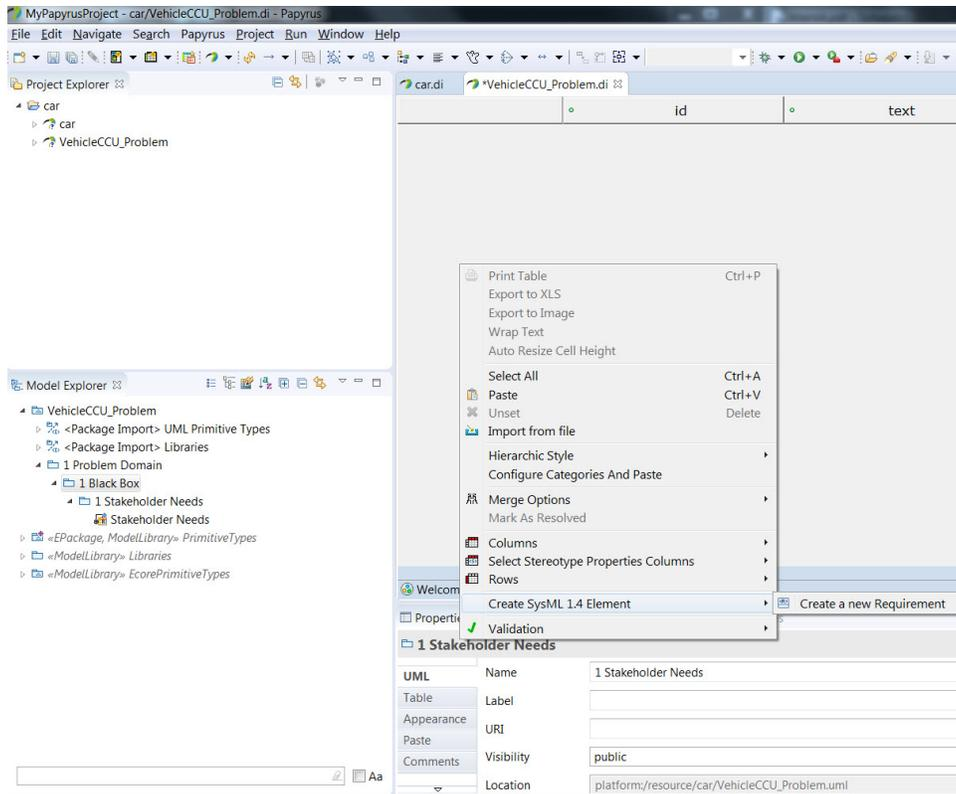
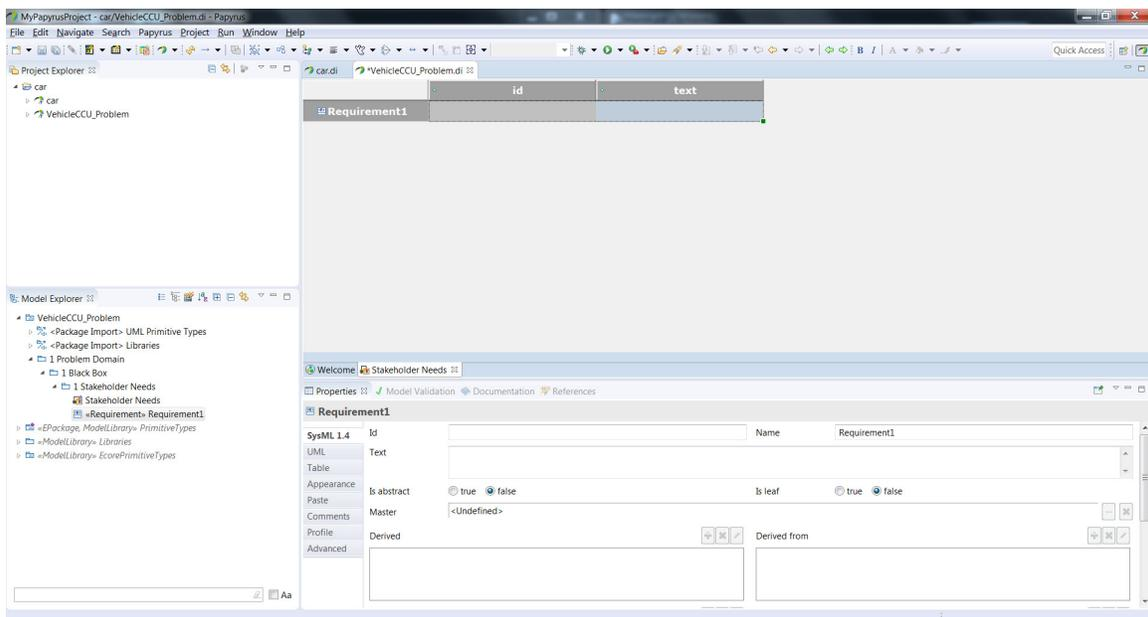

Figure 11: Create New Requirement in Requirement Table
Figure 12: New Requirement in Model
4. First Left-click anywhere in the blank space in the main table window and then Right-click and select **Create SysML 1.4 Element > Create New Requirement** (see figure 11). A new requirement should appear in the table view and a requirement model element should appear underneath the *Stakeholder Needs* table element in the *Model Explorer* window (figure 12).
in the *Properties Window* in the *SysML 1.4* tab. We are going to use the *SysML 1.4* tab at the bottom of the main screen . To do this Left-click on *Requirement 1* under the *Stakeholder Needs* table element in the *Model Explorer* then select the *SysML 1.4* tab in the *Properties* window (figure 12). You can see the properties in this tab for *Id*, *Name*, and *Text*.